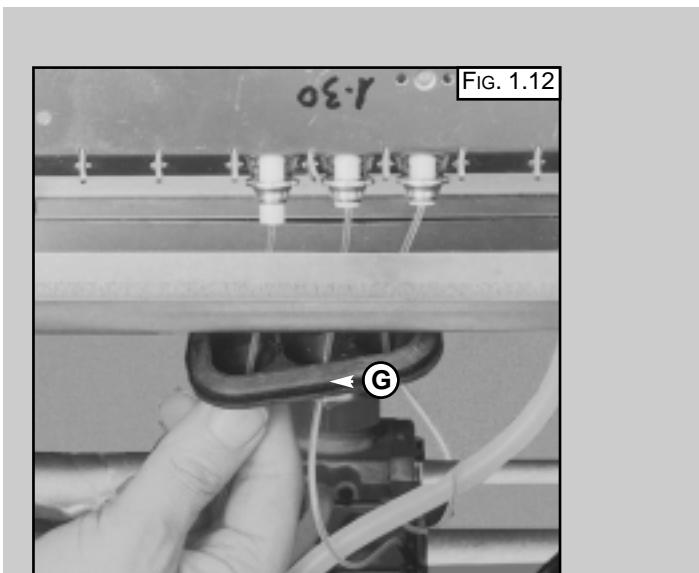

Fig. 1.12
1. Remove rubber gasket "G" (FIG. 1.12);